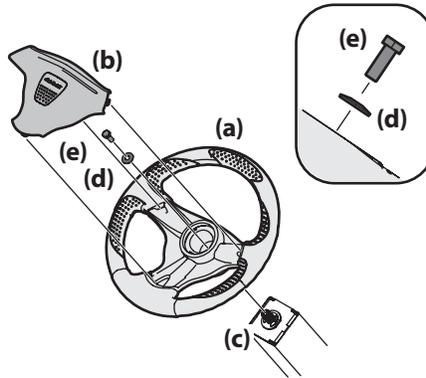

Figure 2-7
- Remove the hardware for attaching the steering wheel (a) from beneath the steering wheel cover (b). Carefully pry off the steering wheel cover (b) to remove the hardware. See Figure 2-7.